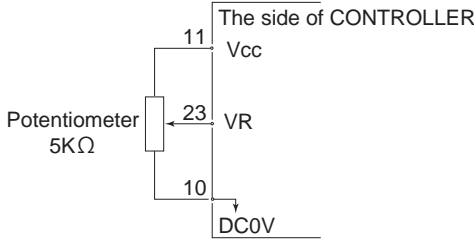
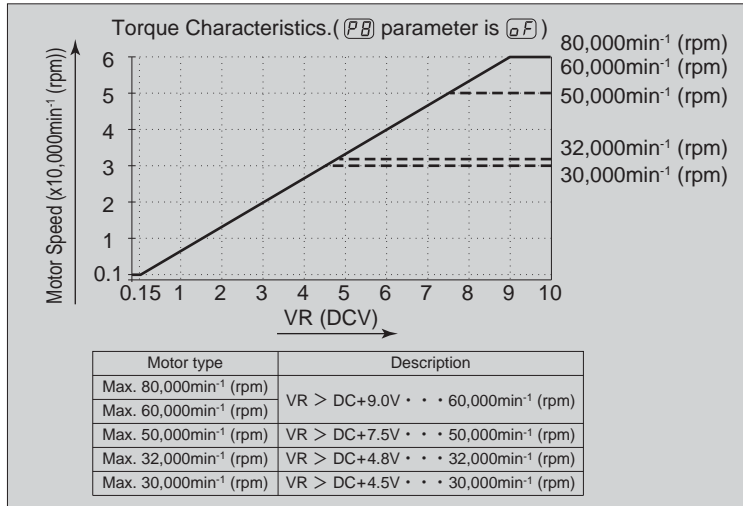

Fig. 34
Fig. 36
④ Motor Speed Control Signal
Rotation Speed can be selected by, applying analog voltage to the " Motor Speed Control Voltage (VR) ". Refer to Fig. 34, 35 for connections. Refer to Fig. 36, 37 for the relationship between Motor Speed and " Motor Speed Control Voltage (VR) ".